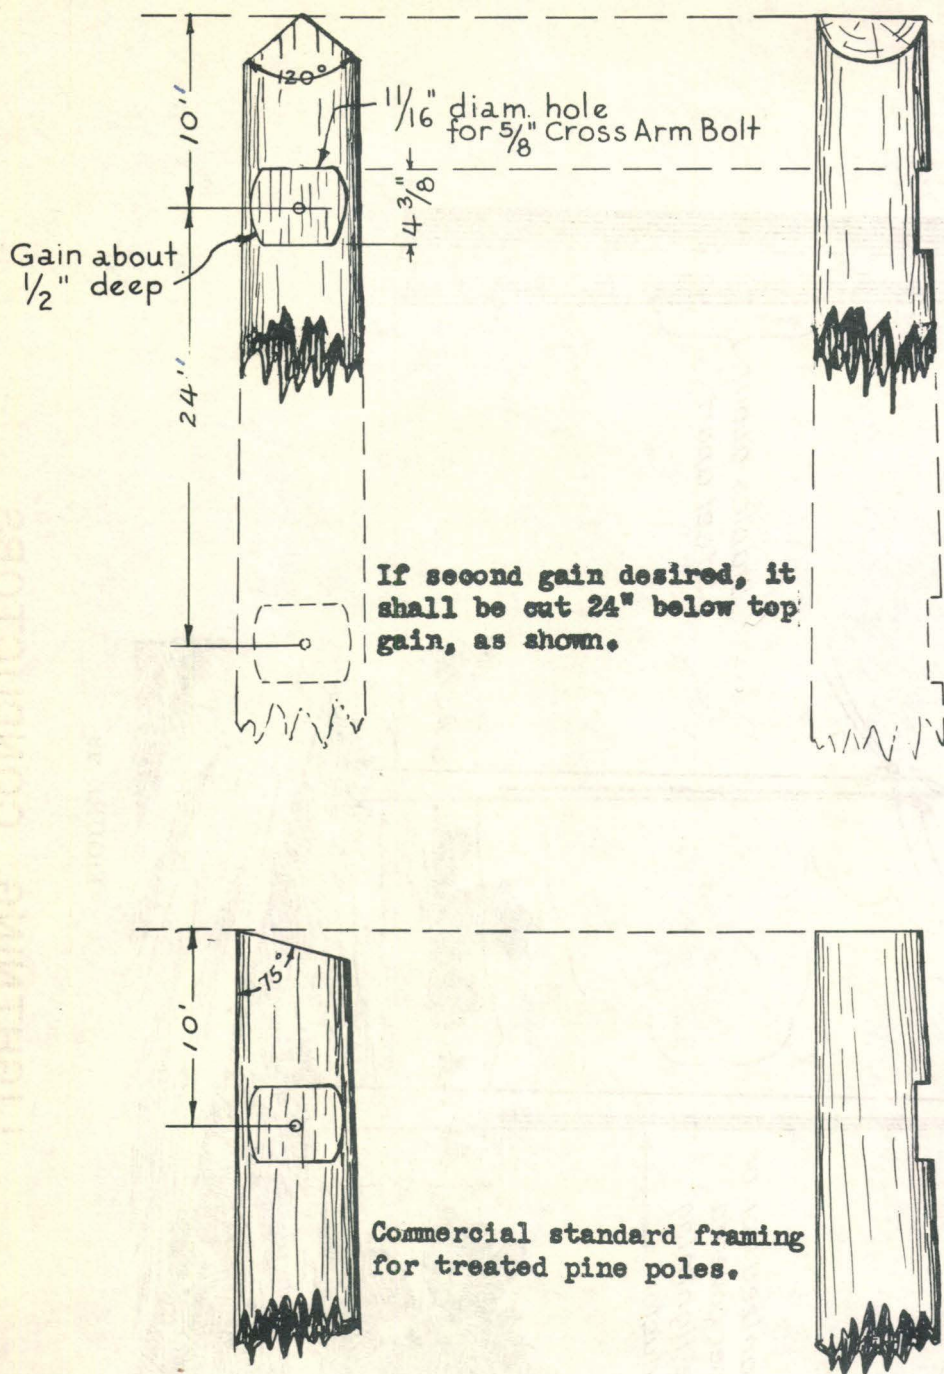
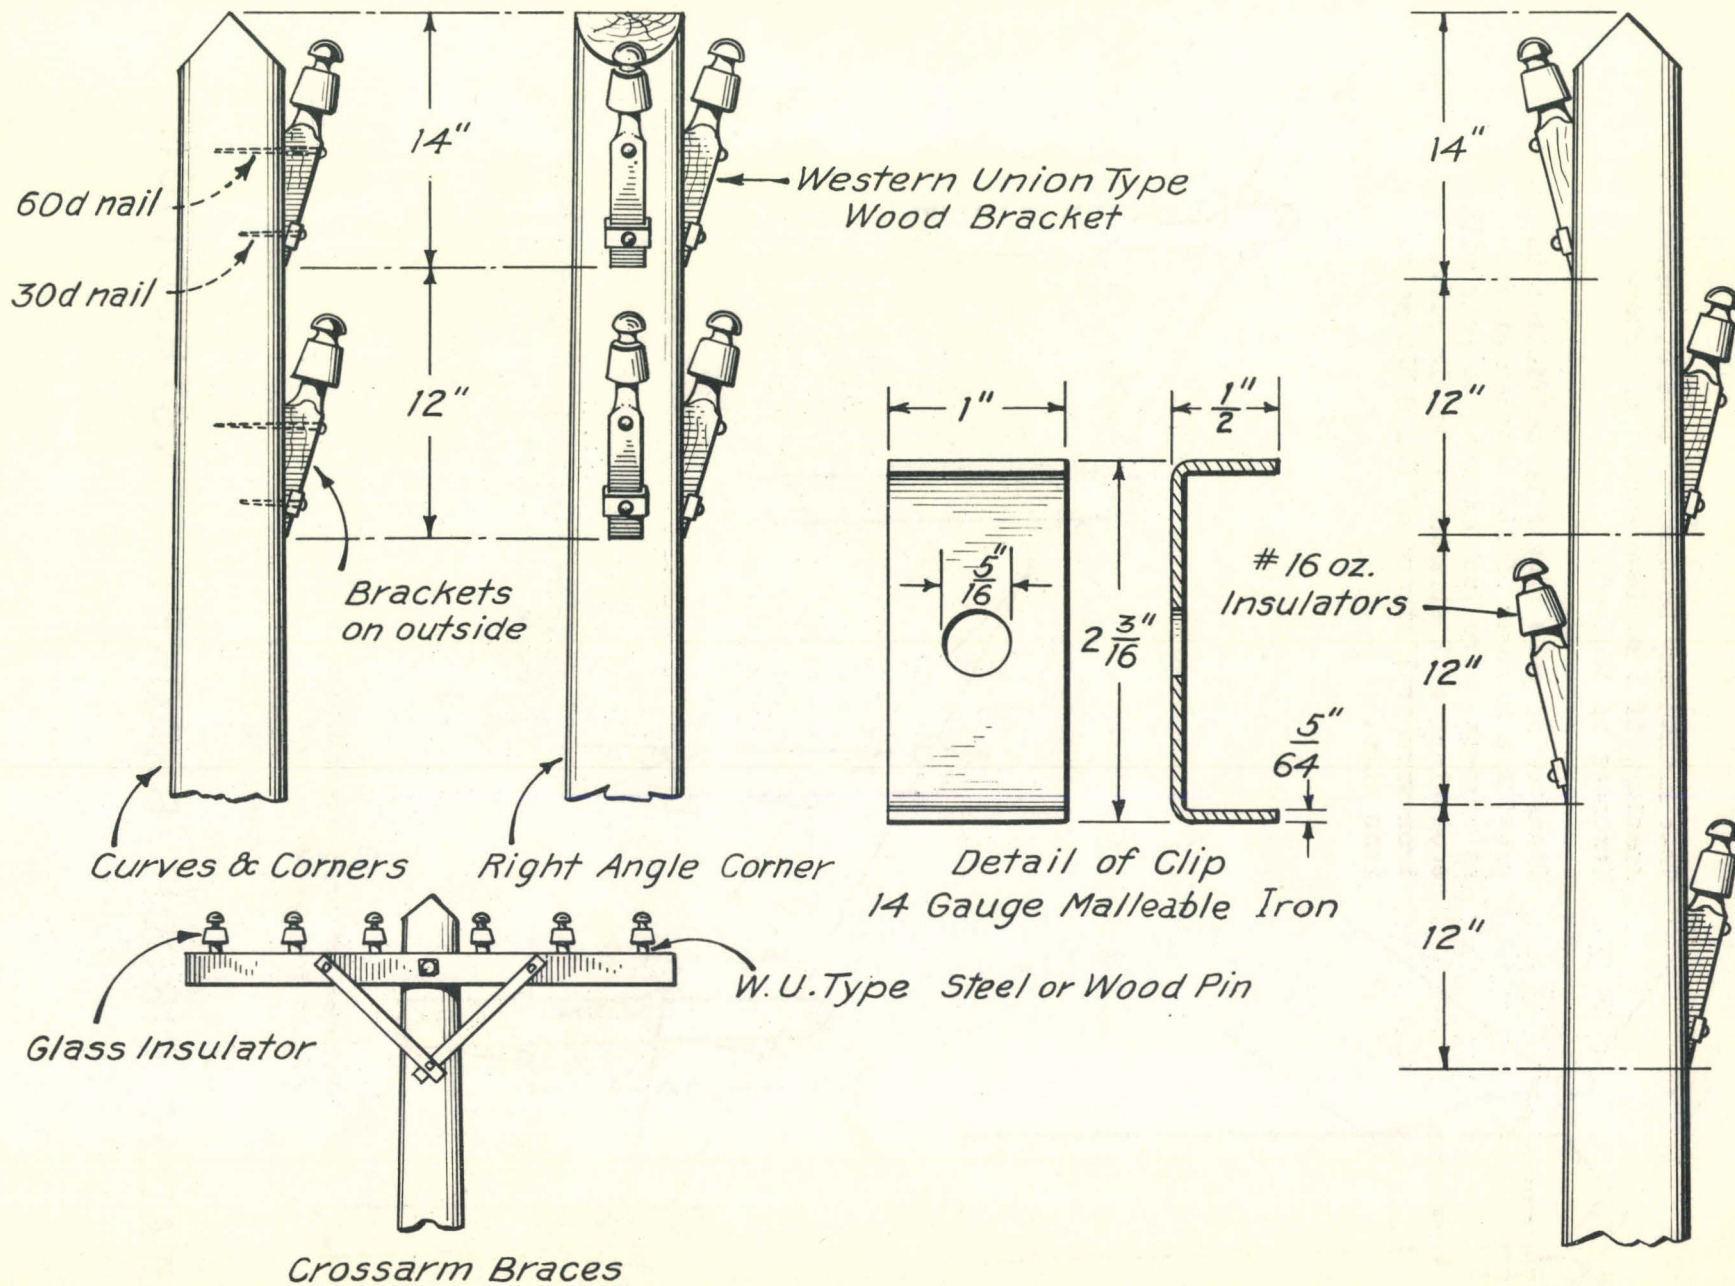

FIGURE 19
FIGURE 20
1. Pole Species and Treatment: Western red cedar, Northern white cedar, lodgepole pine or chestnut complying with A.S.A. specification 05c1 and 05c2 to be butt treated with creosote according to A.T.&T. specification 6240. If the cost is the same or lower, the poles may be of Southern yellow pine, Norway pine, Ponderosa pine, Western larch or Douglas fir complying with A.S.A. specification 05g1 and 05g2 framed according to figure 19 and have a full length 8 pound empty cell treatment of creosote according to A.W.P.A. specification 41A.
All poles are to be framed before treatment, according to the best commercial standards. Recommended framing is shown in Figure 19.
Brackets may be used for poles on which there will not be more than four wires, provided there will be a sufficient clearance between the lowest wire and the ground. Brackets should be attached to the poles as shown in Figure 20. When necessary in order to secure proper clearance above the ground either at intersections or along the side of the road, the brackets for both wires of a metallic circuit may be attached to the pole at the same height from the ground as shown in Figure 21. Transpositions of lines on brackets will be more effective in securing a balanced circuit with the wires in this position, than if placed one above the other.
Crossarms should be used on poles on which there will be more than four wires. They should be attached to the poles with a 5/8" crossarm bolt with two 1/8" x 2" x 2" crossarm washers and two crossarm braces as shown in figure 20. Crossarm dimensions are shown below. If poles are to be crossarmed, gains are to be cut and the holes bored as shown in Figure 19.